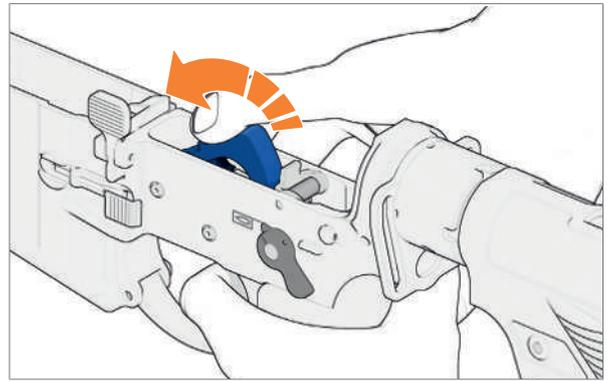

Fig. 17: Slowly guide hammer forwards
4. Pull trigger and guide hammer forwards slowly (*Fig. 17*).